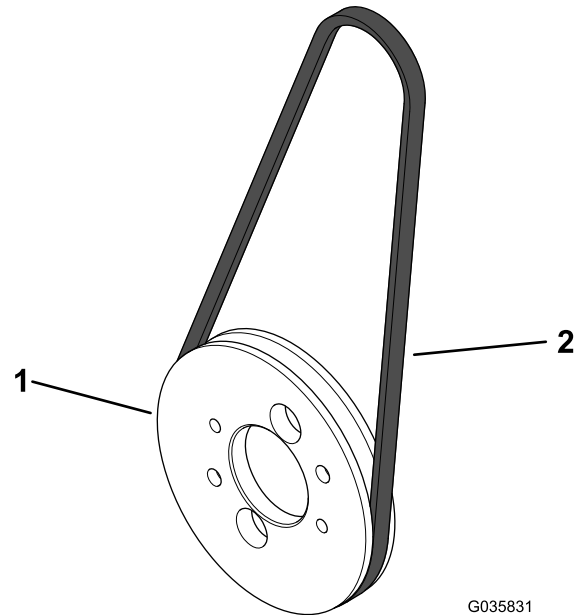

Figure 6
1. Install the alternator belt onto the alternator pulley (Figure 6).